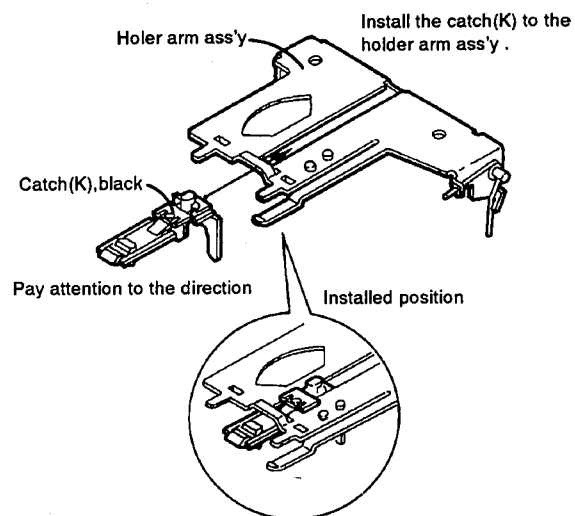

Fig. 4-19
- 1) Straighten the bent tabs ⑩ holding the reel disk board.
- 2) Remove two screws ⑪ fixing the reel disk board.
■ How to assemble the cassette holder and sub chassis (See Figs. 4-19 through 4-22)
Step 1. How to Install the catch (K)